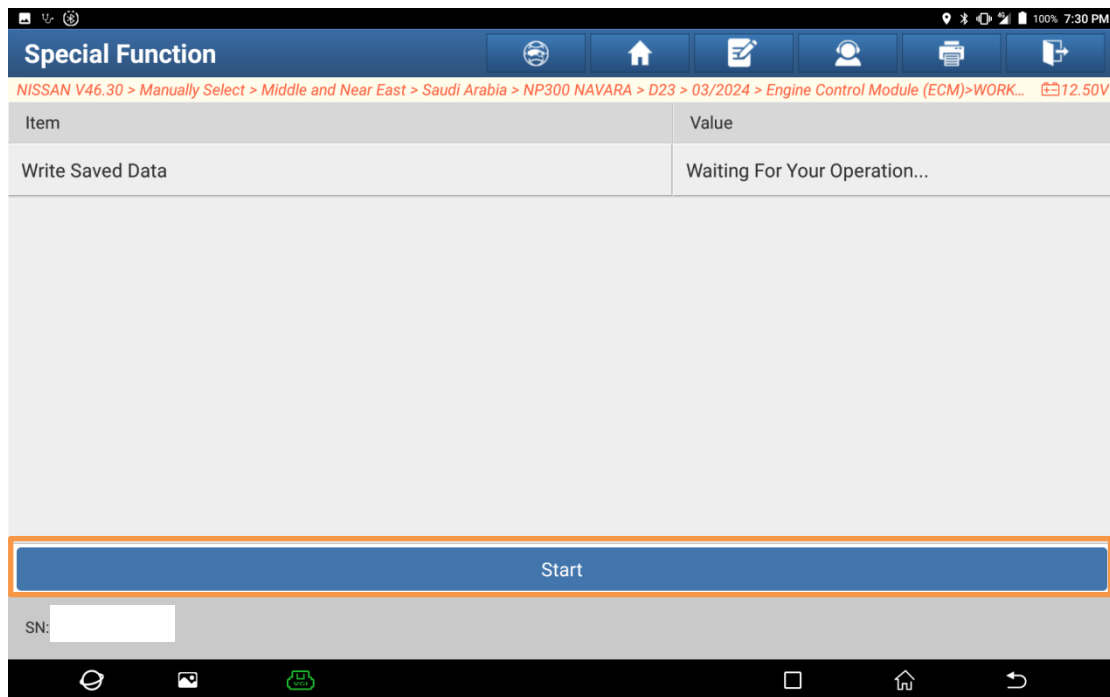

Figure 21
13. Click the "Start" button (Figure 21) to write configuration data.